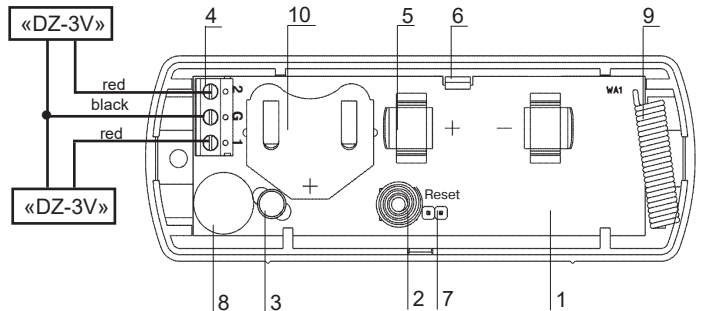

Figure 1 – The Base with the PCB
The external appearance of the SPM is shown in Figure 1.
9.3 Fasten the FS on the mounting surface with screws or a water-resistant glue. Fasten the SPM base on the mounting surface with screws. To ensure the wall-tamper control, the second screw must be screwed in the wall tamper fixing arm. Install the PCB, connect the FSs to the loop terminals in accordance with the Figure 1 . Install the cover.